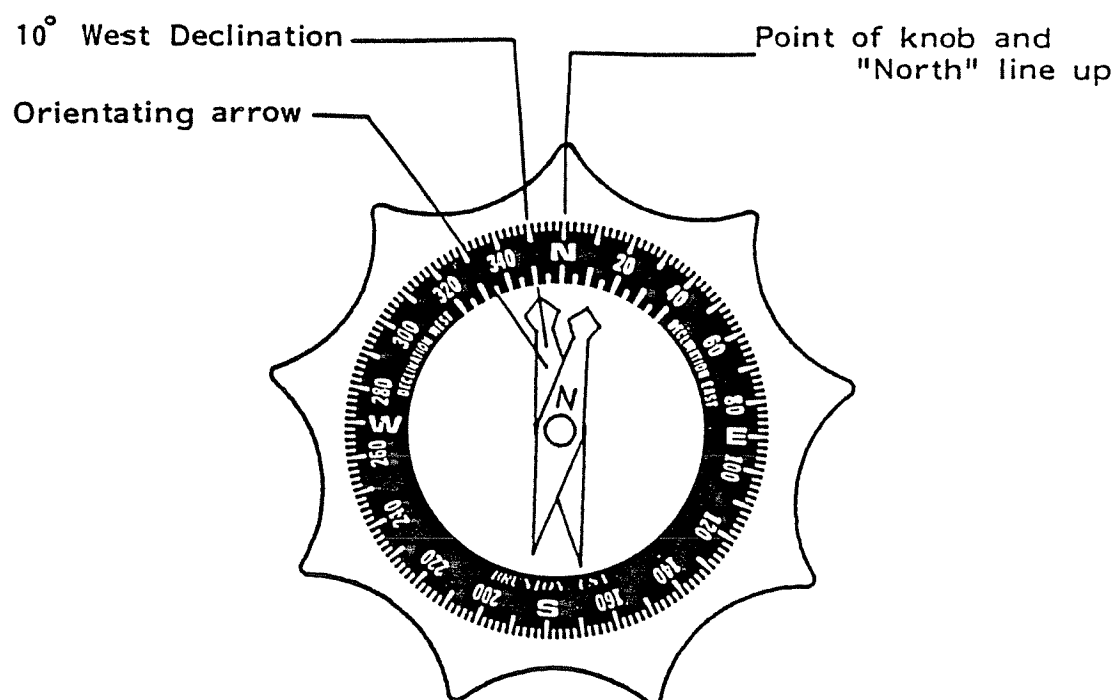

Figure 2
3. With the right hand, rotate the outer dial until the orienting arrow (the black arrow painted on inside clear surface) is lined up with the desired Magnetic Declination angle on the declination scale. Notice that East Magnetic Declination is to the right of the "North" position and West Magnetic Declination is left of the "North" position. As an example, Figure 2 shows the correct setting for 10 degrees west declination, which covers Buffalo, NY, or Philadelphia, PA.
2. Snap the Magnetic Compass into the 3" diameter wedge attachment knob (after setting the Magnetic Declination as described above). Position the compass into the knob so that the 360 degree location on the direction scale (the "North" position) lines up with one of the nine points of the knob. (See Figure 2.) Press the compass firmly into the knob.